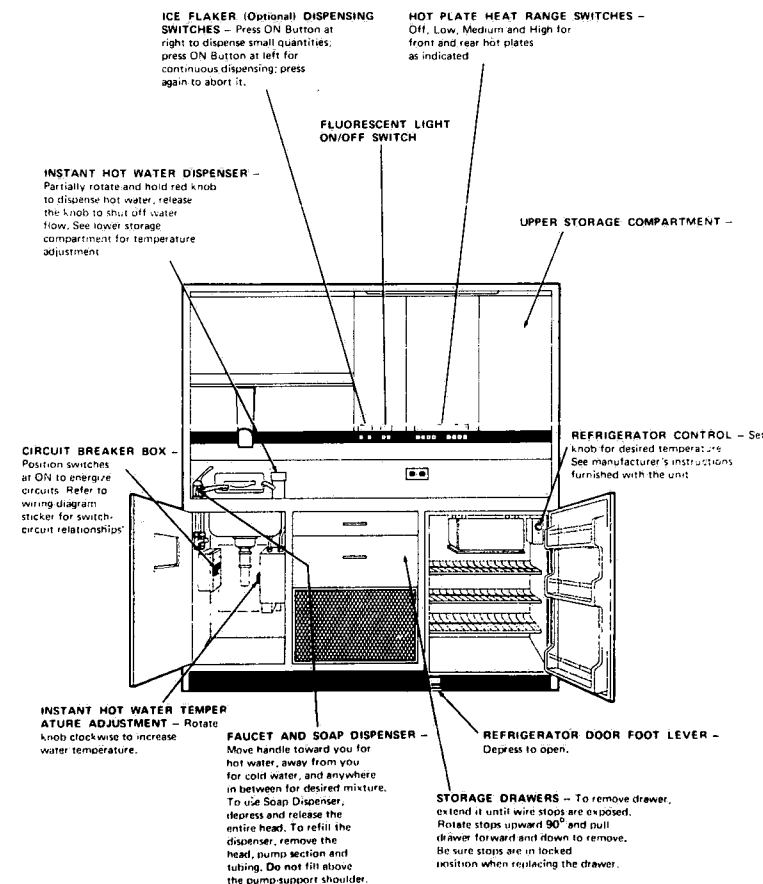

Figure 2-1. DIETARY STATION OPERATING CONTROLS.
Figure 2-1 is intended to guide servicemen when (1) instructing operators in techniques that will ensure optimum equipment performance; and (2) verifying the validity of operator complaints. See Paragraph 3-7, TROUBLESHOOTING, if a component is not operating properly. Refer to Section 1, GENERAL INFORMATION, for capabilities of the equipment.